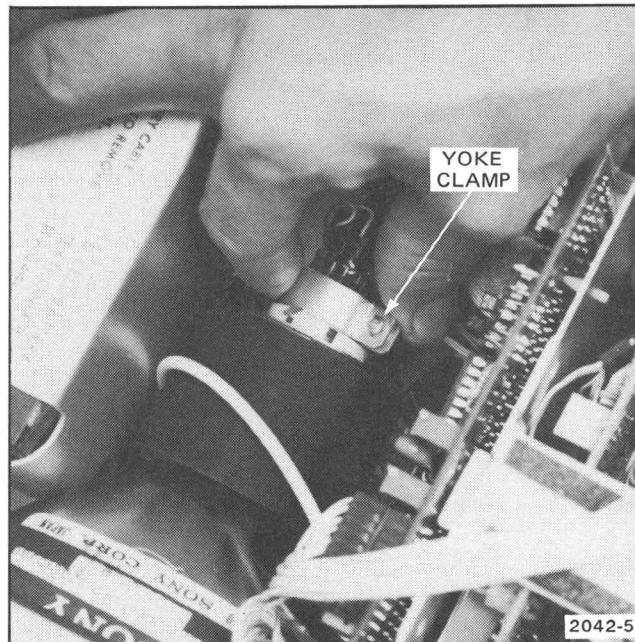

Figure 4-1. Deflection yoke adjustment.
b. Loosen yoke clamp (Fig. 4-1).